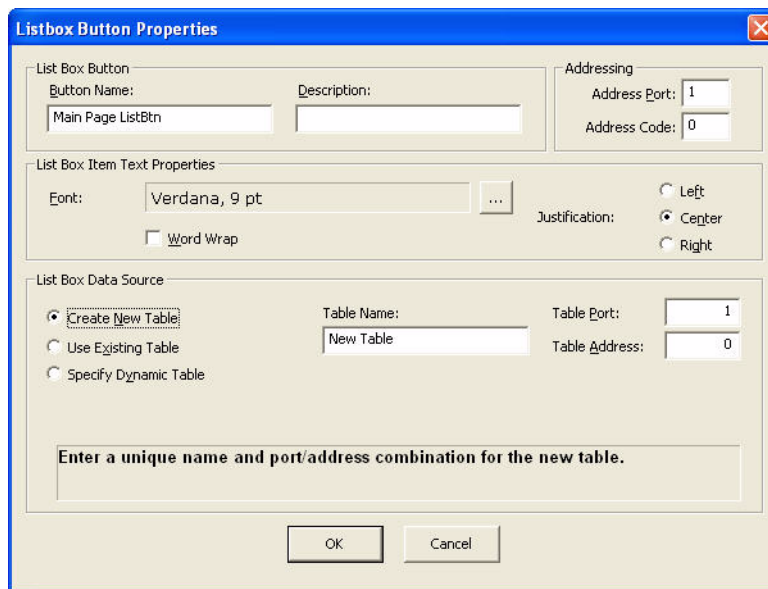

FIG. 36 List Box Button Properties dialog
2. Go to **Project > List Box Items...** to launch the *List Box Button Properties* dialog (FIG. 36). This dialog sets and edits the properties for the List Box button. Any settings established in the List Box button properties populates down to each item contained in the List Box.